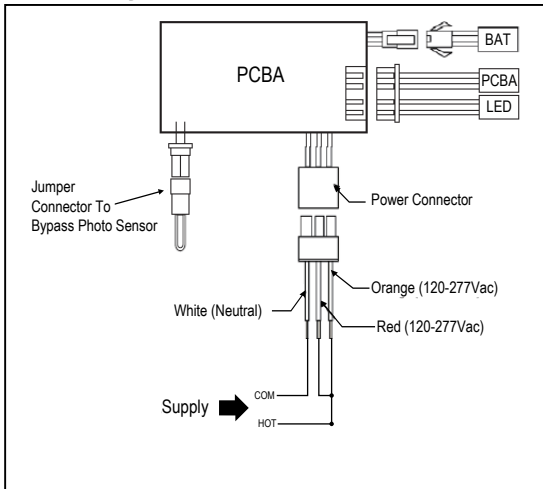

Figure 6
- c. Normally on – Connect red wire to orange wire. Unit will illuminate in AC mode and in emergency mode (see Figure 6).